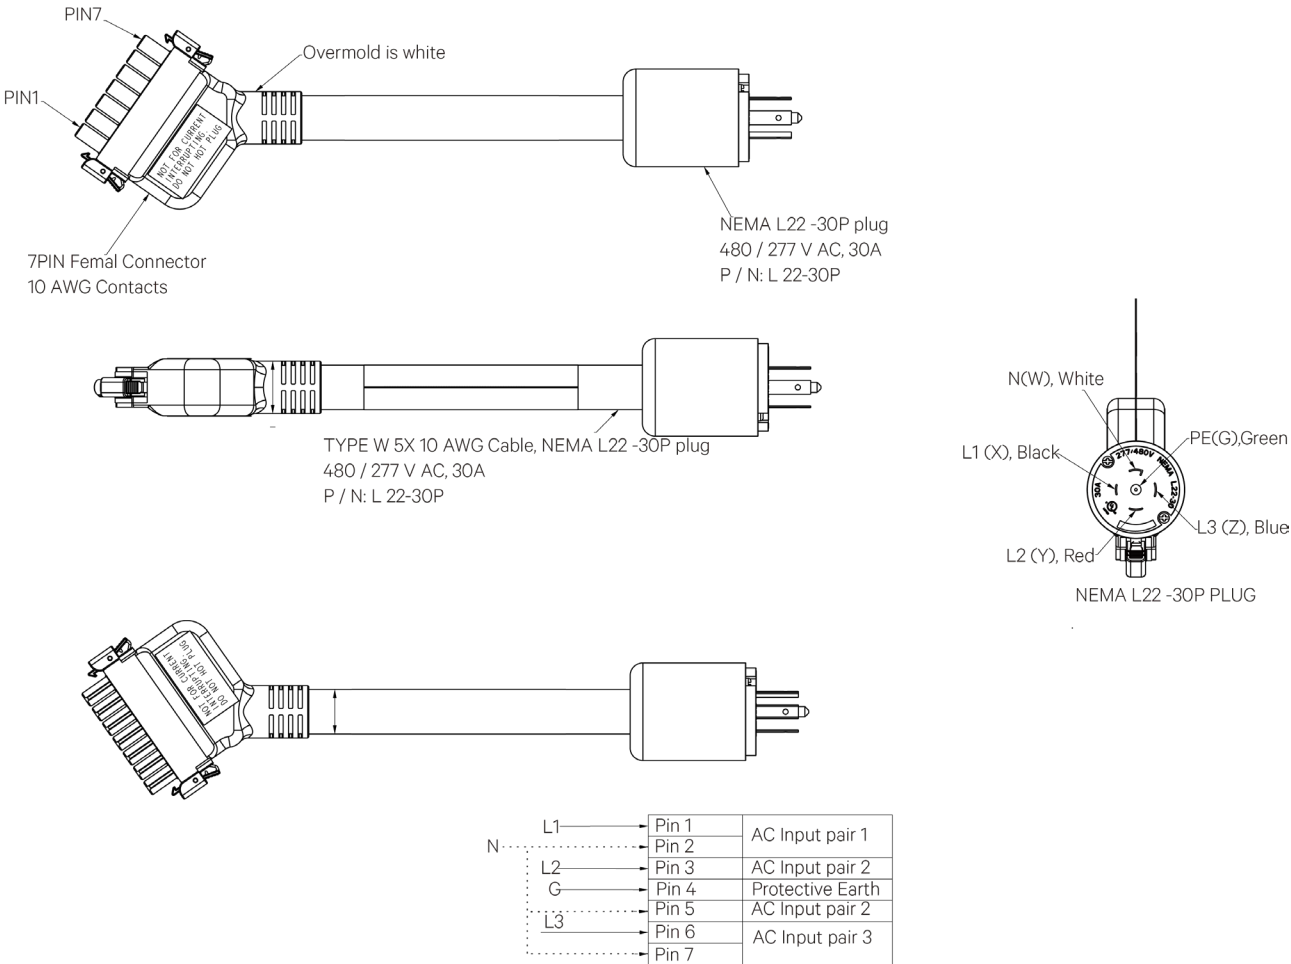

Figure 4
- ◆ Includes 5-wire 10AWG AC input line cord. Factory connected at one end is a connector that plugs into a mating connector on the rear of the Power shelf and on the other end with a NEMA L22-30P 30 A plug. See **Figure 4**.